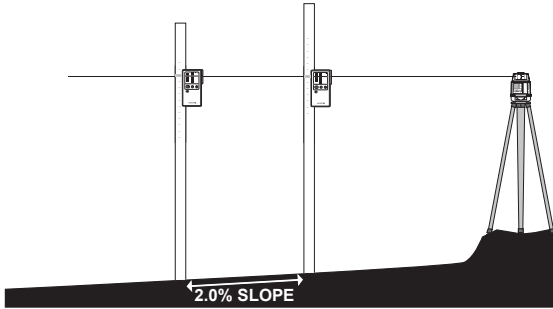

Figure 5-12. Checking Slope
1. Find a smooth area where the screed can rest evenly across its entire surface. Using a laser, a Smart Level, or a slope board, that itself has been calibrated, check the cross slope and direction of fall of the ground (Figure 5-12).